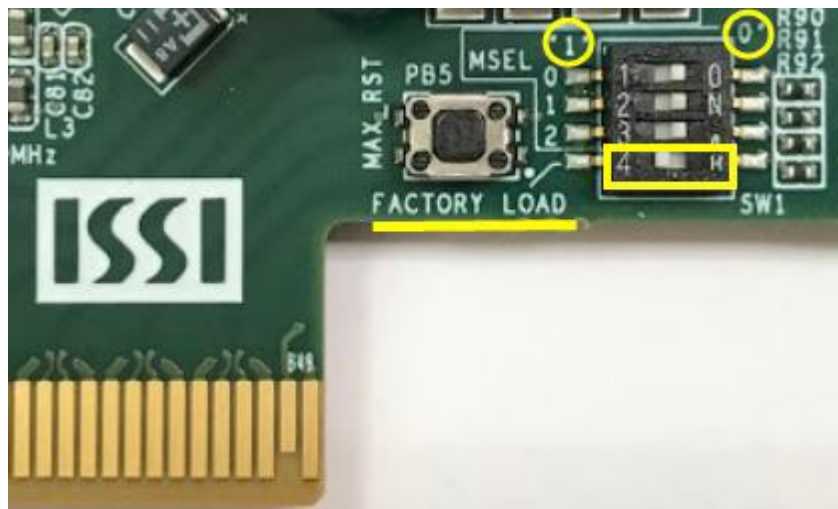

Figure 4-2 Configuration Image Selection
3. Specify the configuration of the FPGA using the default Factory Configuration Image or User Configuration Image by setting SW1.4 according to **Figure 4-2**. When the switch is in position “1”, the factory image is used when the system boots. When the switch is in position “0”, user image is used when the system boots.